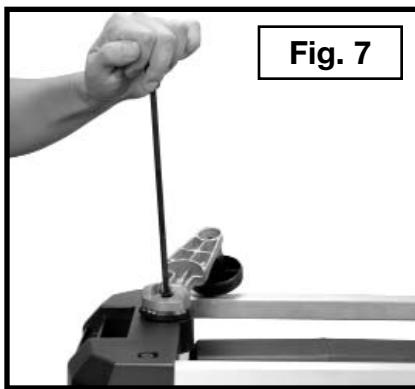

Fig. 7
2. Fasten the cutterhead adjustment handle to the shaft using the M6 x 20mm star socket head screw and lockwasher with the supplied cutterhead wrench (Fig. 7).